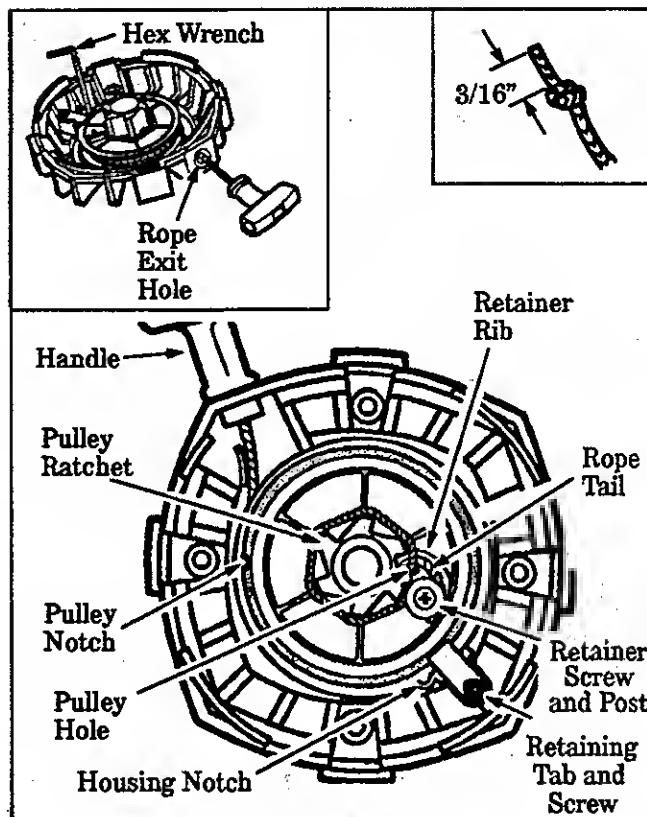

Figure 28
8. Remove Rope Retaining Screw and remove any remaining rope. (Figure 28).
9. Hold Pulley Housing as shown in Figure 28. Hand turn the Pulley clockwise as far as it will go. Then, turn the Pulley counterclockwise until the Pulley Notch is aligned with the Housing Notch next to the Retaining Tab and Screw. Figure 28.
11. Insert the small hex wrench into the hole formed by the Notches to hold the Pulley in position. Figure 28 (inset-upper left).
15. Insert one end of the Rope through the Handle and secure with a knot. Leave a 3/16" tail behind the knot. Figure 28 (inset-upper right).
16. Insert the other end of the Rope through the Rope Exit Hole into the inside of the Housing, into the Pulley and up through the Pulley Hole. Figure 28.
17. Wrap the Rope counterclockwise around the Pulley Ratchet and tuck loose end under the Rope at the Pulley Hole. Figure 28. Leave a 1 inch tail laying between the retainer rib and the Rope Retaining Screw/Post. Figure 28.
18. Thread Rope Retainer Screw into the Rope Retaining Post. Tighten screw until the washer is snug against the either the rope or the screw post. Pull firmly on rope to tighten it against the pulley ratchet. Figure 28.